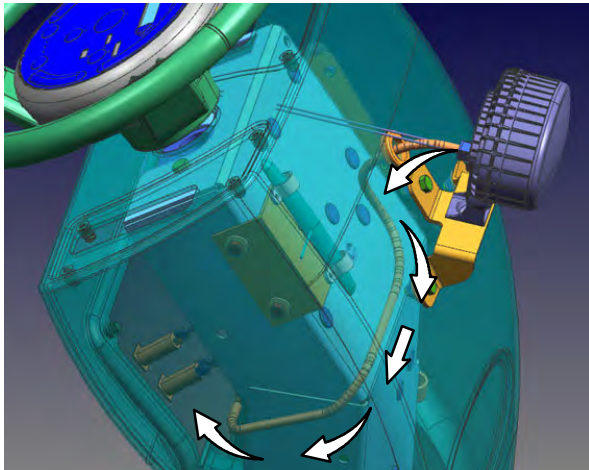

FIG. 30
12. Route the blue spotlight harness (3) between the front shroud and steering channel, around the right side of the steering channel, and to the circuit breaker bracket. (Fig. 30)